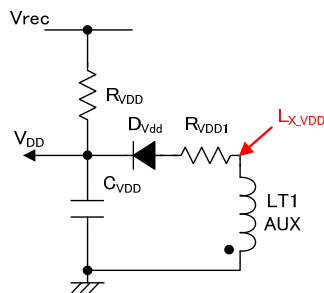

Fig.35 VDD power supply circuit using a transformer
When R_{VDD} is large and the current through R_{VDD} is smaller than the current consumed in the IC, the V_{DD} pin voltage does not rise higher than the UVLO release voltage and startup is not possible. For this reason, select a resistance value for R_{VDD} that satisfies Equation (17). (Fig. 35)